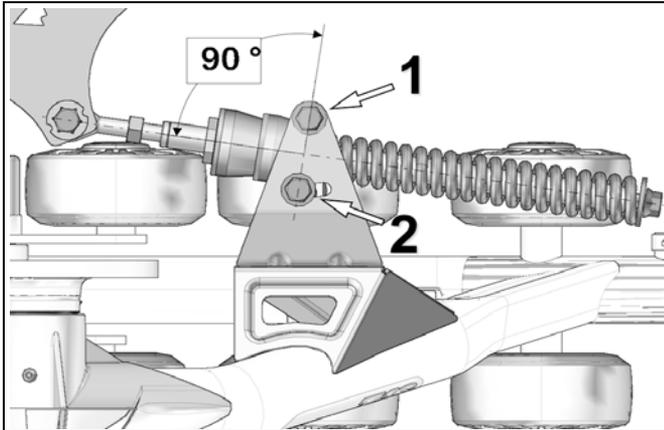

Figure 15
- Position the anti-rotation retainer at 90° (perpendicular) with the stabilizing rod. Tighten the two anti-rotation bracket mounting bolts (1 and 2) to 50 N•m of torque. Refer to Figure 15.